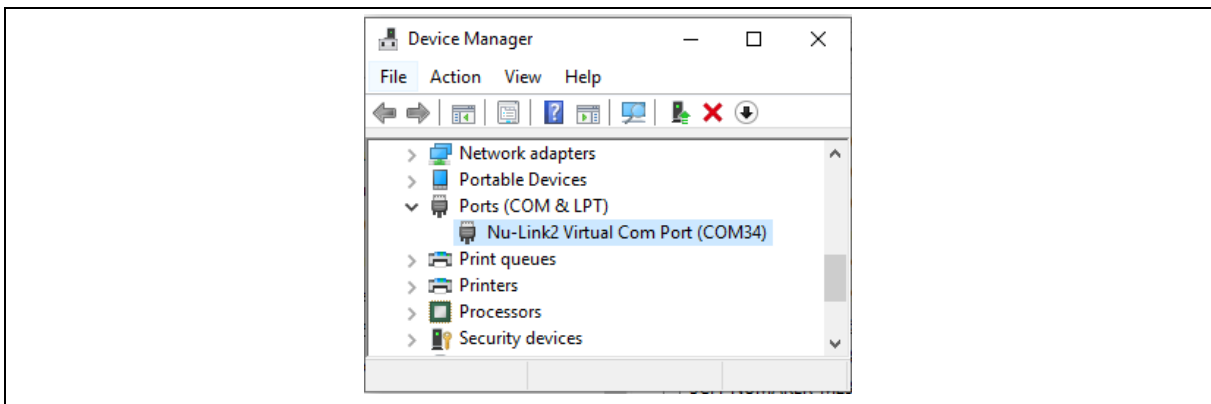

Figure 5-5 Device Manger
3. Find the “Nu-Link2 Virtual Com Port” on the Device Manger as Figure 5-5.